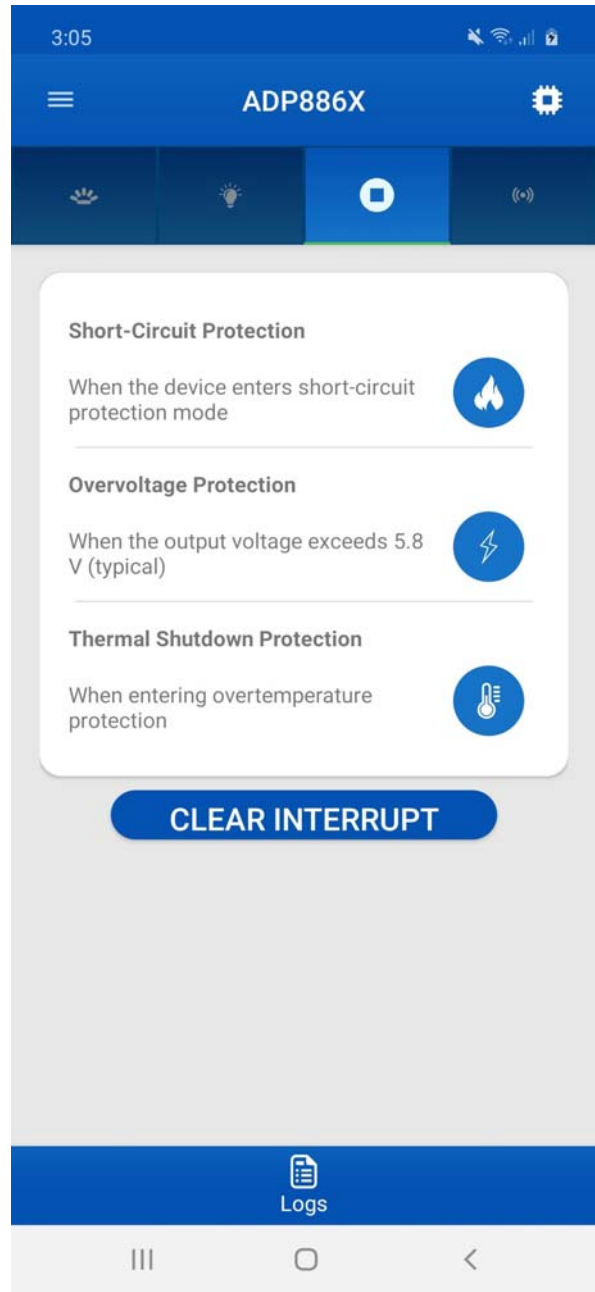

Figure 22. Interrupt Tab for the Android App
- 8. In the **Interrupt** main tab, users can enable device protection as well as clearing interrupts when triggered (see Figure 22).